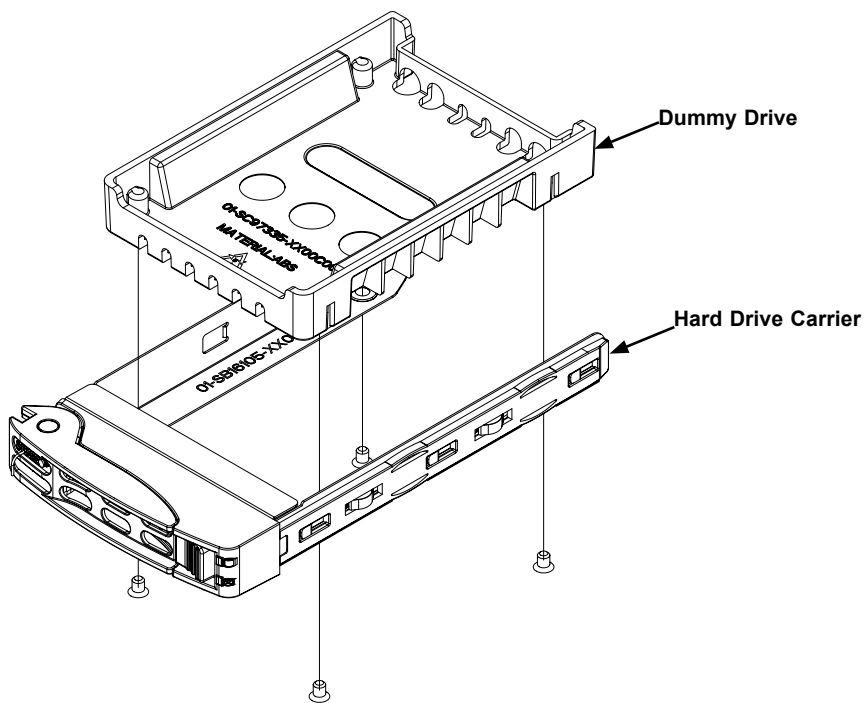

Figure 3-6. Mounting a Drive in a Carrier
3. Remove the dummy drive from the carrier (Figure 3-6).